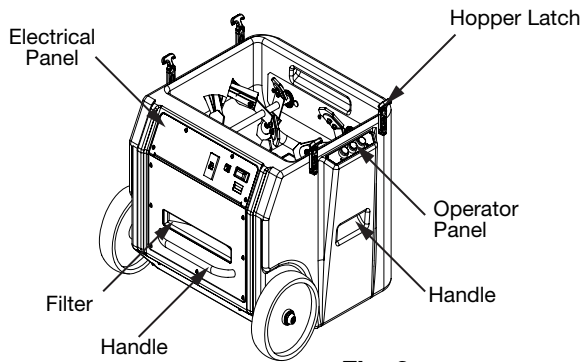

Fig. 3
- **Electrical Panel (Fig 3)** This panel is mounted to the base and houses the following: time delay relay, blower relay, main circuit breaker, agitator circuit breaker, GFCI, hour meter.
- **Operator Panel (Fig 3)** This panel is mounted to the base and houses the following: "on" / "off" switches for operation of the entire machine and the ready light. (Not shown)